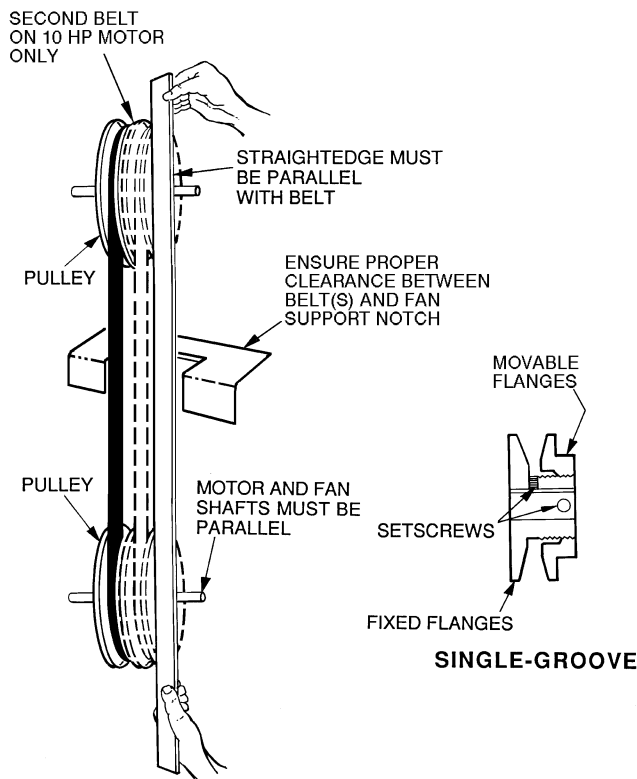

Fig. 50 — Evaporator-Fan Pulley and Adjustment
3. Loosen movable-pulley flange setscrew (see Fig. 50).